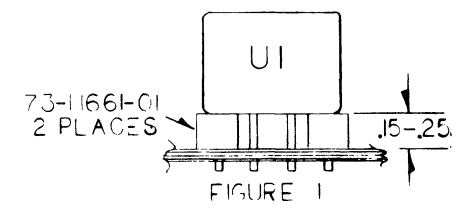

FIGURE 1
12. MOUNT U1 AS SHOWN IN FIGURE 1.